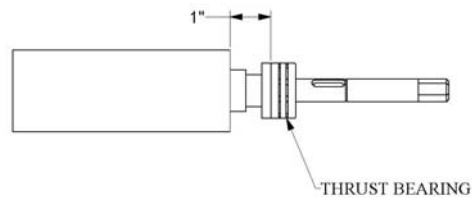

Fig. 1.34
1. Ensure that the lift screw flange (for the thrust bearing) is at least 1-inch from the upper end of the inner lift tube. Turn the screw clockwise to extend it. Refer to Fig. 1.34.